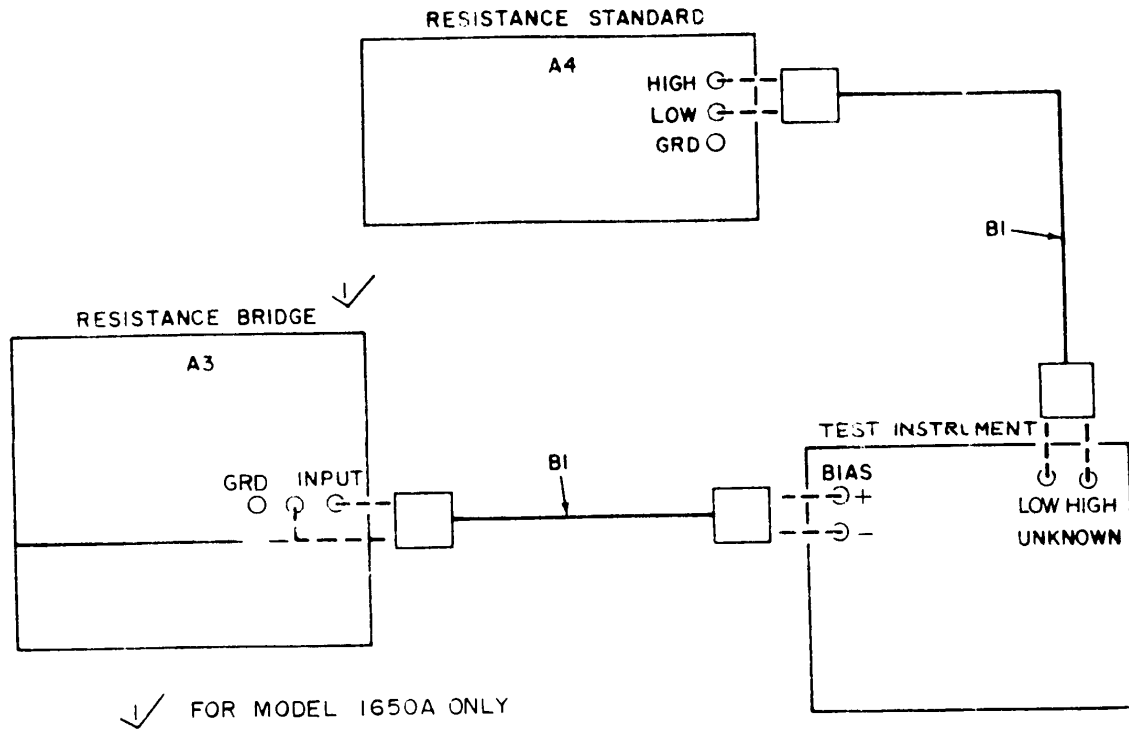

Figure 2. Ratio resistors check – equipment setup.
(1) Connect equipment as shown in figure 2.
(2) Position TI controls as indicated in (a) through (d) below: